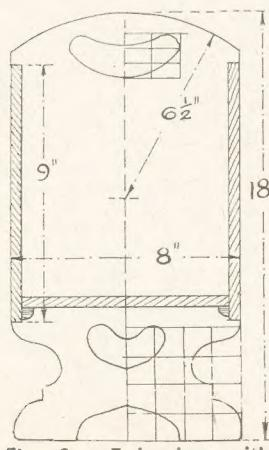
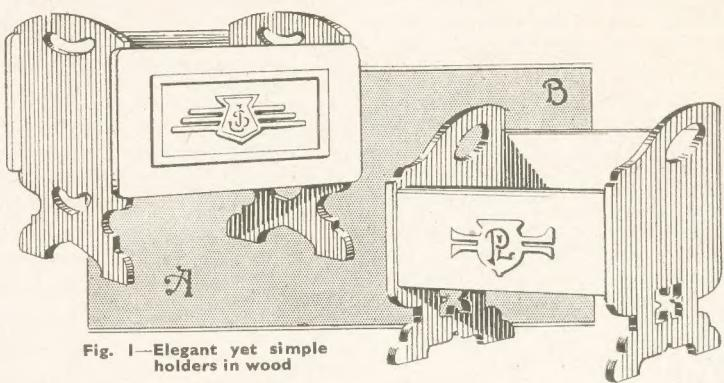

Fig. 2 — End view with dimensions
Fig. 1 — Elegant yet simple holders in wood
The illustrations in Fig. 1 give a good idea of the stands, and we will first describe that shown as (A). The two ends are of $\frac{1}{2}$ in. wood, and their outline can be drawn from the detail, Fig. 2. A plain oblong of wood is first cut measuring 18ins. by 8ins., and a centre line should first be drawn down its centre as shown.
The sides of the stand (see Fig. 2) are recessed into the upright edges of the ends. The sides are shown shaded in the diagram, and are let in $\frac{1}{2}$ in.—the full thickness and the width of the sides.